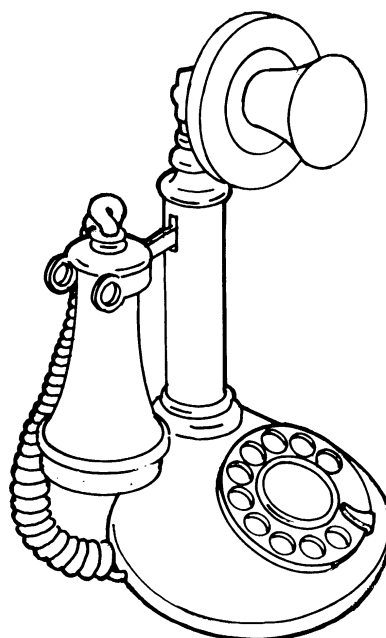

Figure 3. Candlestick Telephone.
2.07 The Candlestick telephone (Figure 3) resembles the old upright telephone. The base is approximately 6 inches in diameter, and the overall height is approximately 12 inches. The housing is of molded plastic and the trim is brass-plated molded plastic. Three models are available and differ only in housing color: